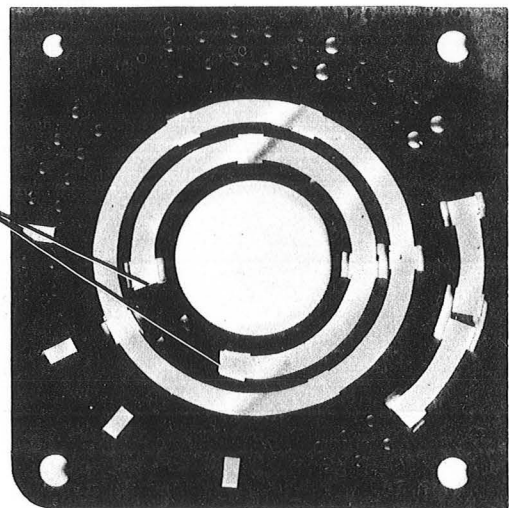

Figure 2.
6. Should Full Cycle Patches be incorrectly trimmed, as shown in Figure 2, trim ends of Full Cycle Patches squarely with a sharp knife.